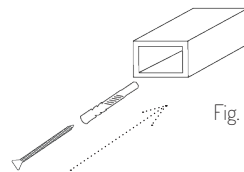

Fig. 1
3. Insert the dowel into the hole and screw the socket to the wall using the countersunk screws. (Fig. 1)